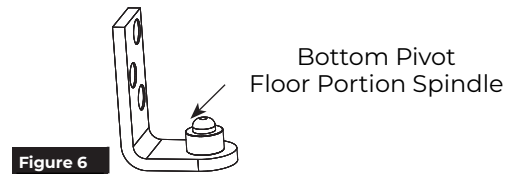

Figure 6
1. Install floor portion of bottom pivot securely to side jamb using three (3) 1/4-20 x 3/4" FHMS or #14 x 1-1/2" FHWS. (Figure 6)